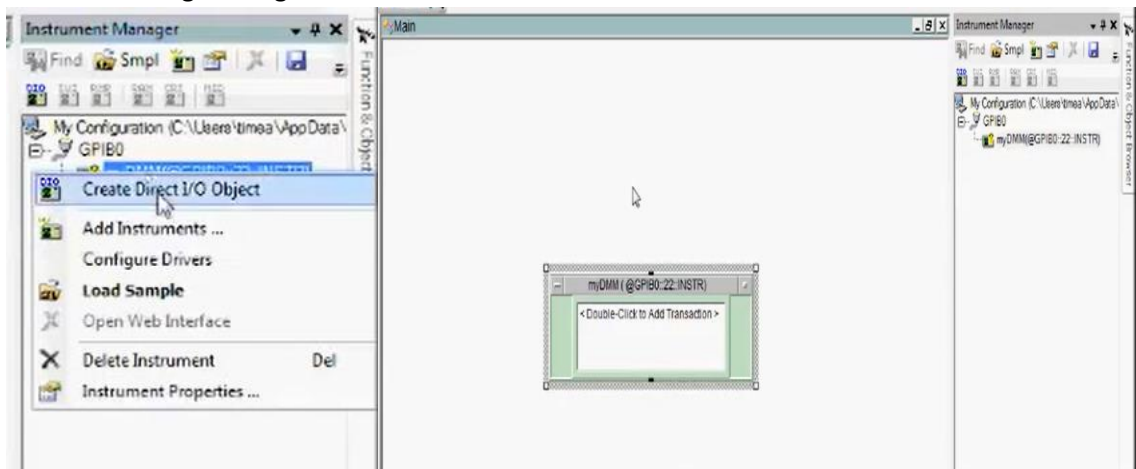

Figure 9: Creating direct IO block
9. You can then create a direct IO object by right clicking on the instrument you just added as shown on the left of figure 9 and the dragging the Direct IO block onto the program window as shown on the right of figure 9.